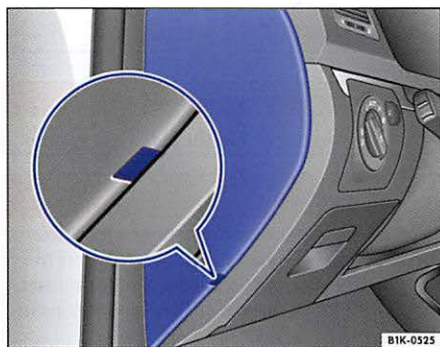

Fig. 188 On the driver side in the instrument panel: Fuse box cover.
- Insert a flat object, such as a screwdriver from the vehicle tool kit, into the opening $\Rightarrow$ fig. 188 (magnified view) and carefully lift off the cover.